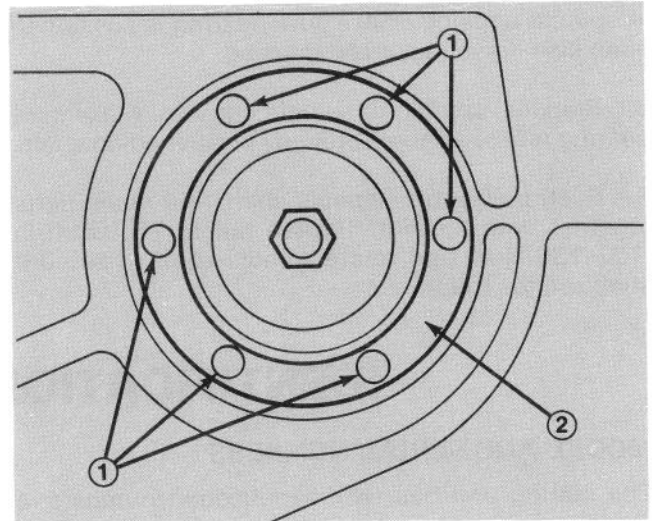

Figure 20
3. Remove six flange bolts and nuts holding spindle housing assembly and support ring against cutting unit (Fig. 20). Slide spindle housing assembly out bottom of cutting unit.